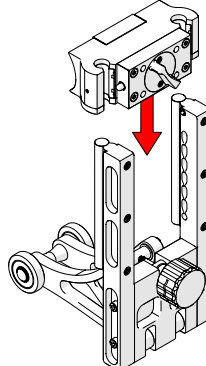

Fig. 14 - Attach base to the main assembly
5. Reassemble the clamp by reversing steps 1 and 2, sliding the clamp arms up from the bottom to reinstall the base onto the main assembly (Fig. 14). It will be necessary to turn the vertical release knob to attach the base to the main assembly.